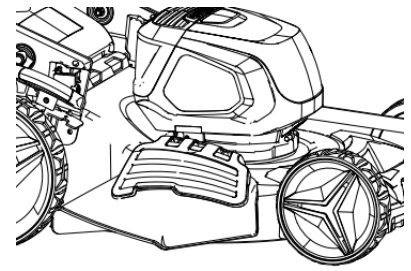

Fig.9C
5. Lower the sideward flap to make the flap lie on the side discharge chute. (Fig.9C)